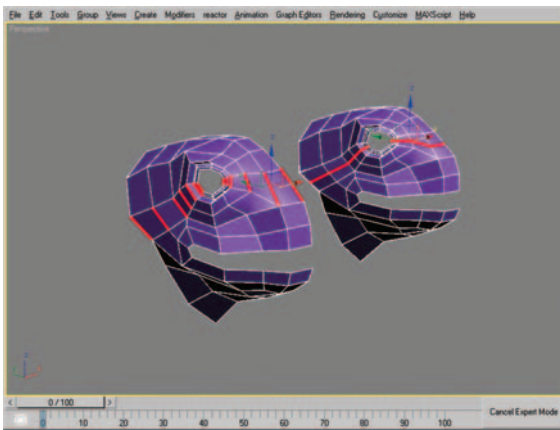

Figure 9.25 Edge-ring selection and resulting new edges after using Connect.
25. Select two edge rings as shown in Figure 9.25 (left). Use Connect to create two new rows of edges (Figure 9.25, right).